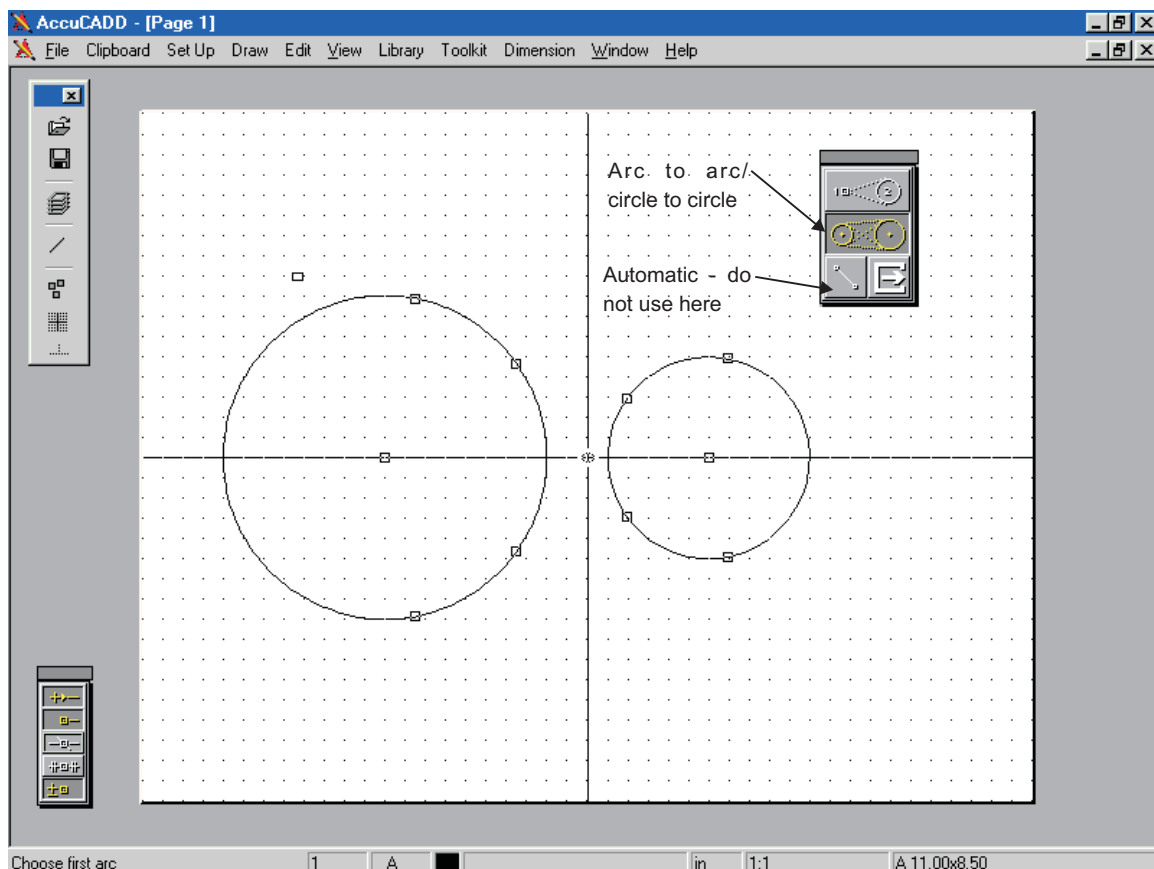

Figure 32: Choice of internal or external tangents
□ Wipe the screen, and ensure your settings are correct. Turn on the “right-hand” screen centered grid, with spacing of 0.25” as shown in Figure 32. This grid has screen center “cross hairs” to guide you. You’ll also find it easier if you make sure the trap points display is “on”. Draw a 4” diameter circle, left of center
The Tangent palette, Figure 32, offers two choices; (1) point to circle or arc, and (2) between two circles or arcs. Select 2. (Accucadd can draw tangents automatically, but for the purposes of this exercise we will not use that feature).
- Turn on the Points display (if you didn't earlier), then draw the external tangents, as Figure 32.